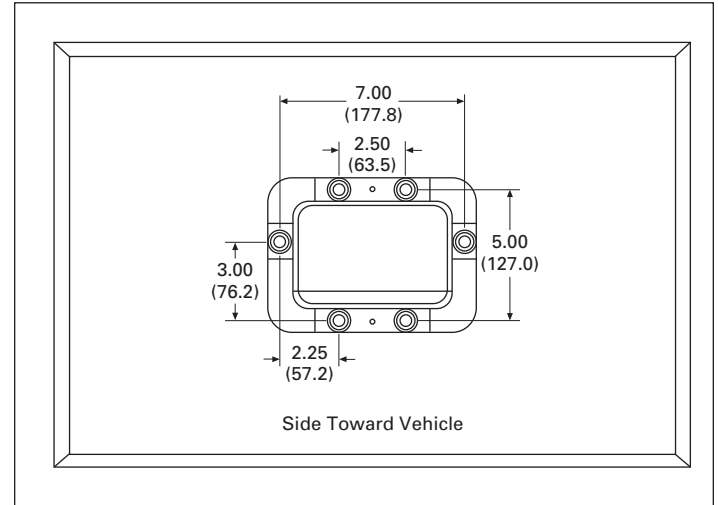

Figure 18. Pedestal Base Bolt Pattern
Step 1: Using the mounting stud location diagram (pedestal base bolt pattern) in **Figure 18** as a guide, pour a concrete pad at least 24.00 inches wide x 16.00 inches deep x 10.00 inches thick with six 3/8–16.00-inch studs in locations as shown. The mounting studs shall be installed with 3/4-inch of thread above the finished concrete surface.